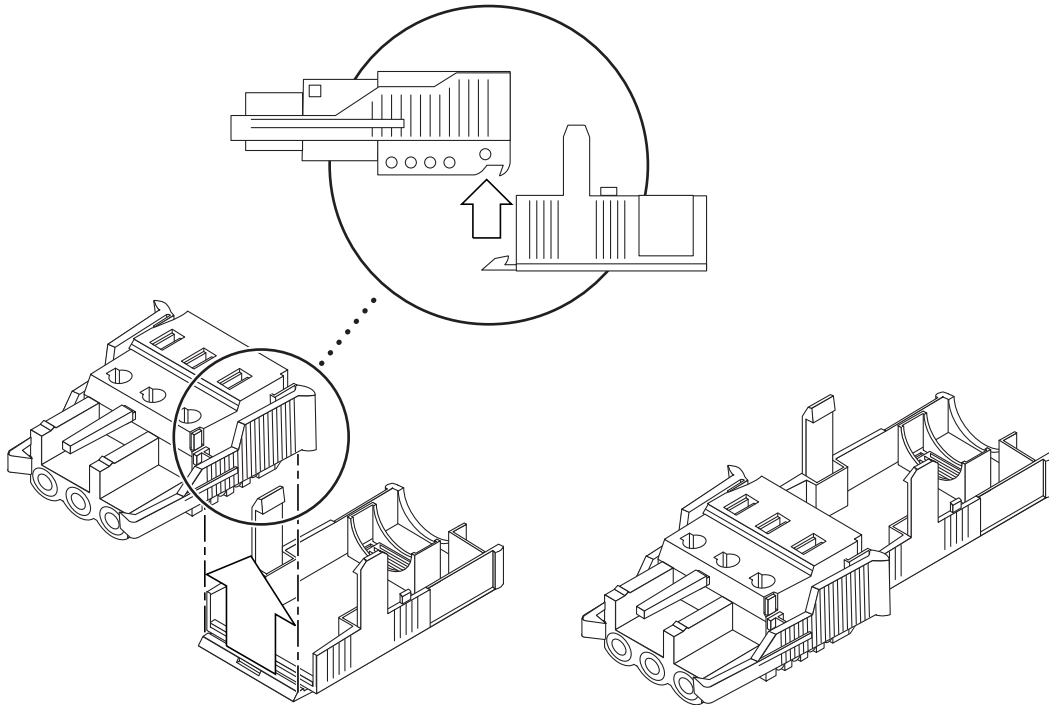

FIGURE 4-6 Inserting the Bottom Portion of the Strain Relief Housing
1. Insert the bottom portion of the strain relief housing into the notch on the DC connector until it snaps into place (see FIGURE 4-6).